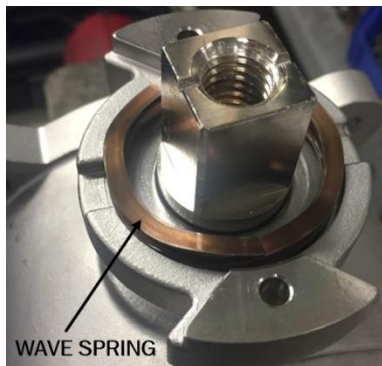

Figure 5.
- b. Install wave spring (new from kit). See Figure 5.